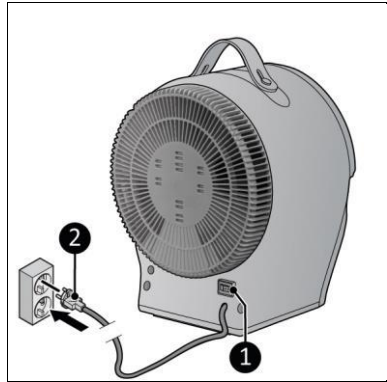

Figure 7
4. Make sure the ON/OFF switch is in the OFF position (Figure 7, pos. 1).